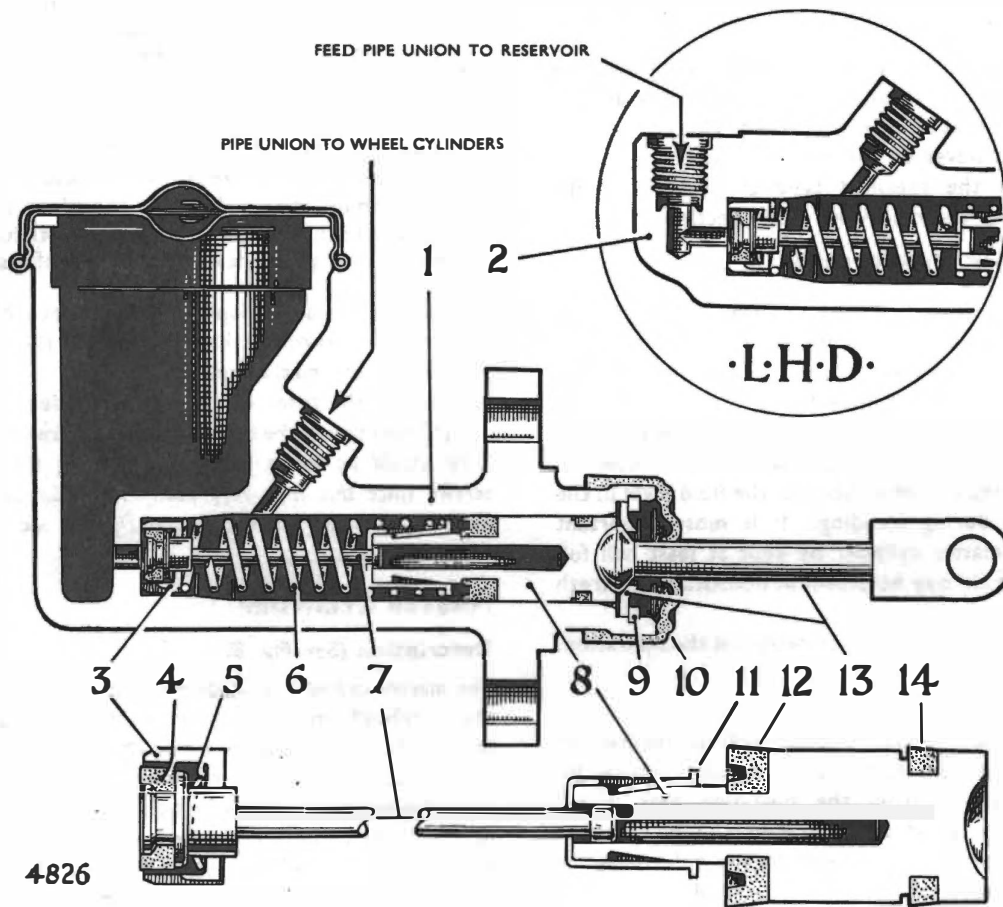

Fig. 8. Sectional view of master cylinder
#### Description (See Fig. 8)
**To dismantle (See Fig. 8)**
**To reassemble (See Fig. 8)**